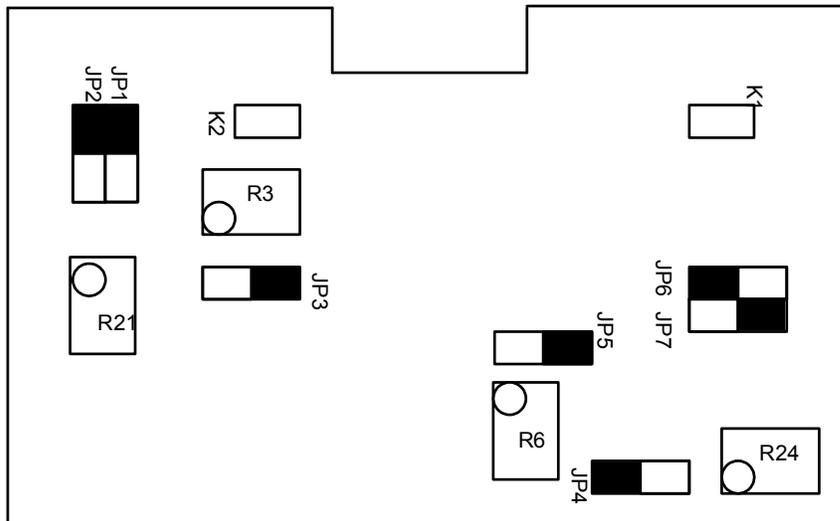

Figure 1. Jumper settings for voltage setpoint calibration using external DAC reference voltages to DUT pin PAVREF and ERREF.
1. Remove jumper K2 and connect jumpers JP1, JP2, JP3, JP5 to JP6 to position A (connected as shown in black box), JP4 and JP7 to position B as shown in figure 1.